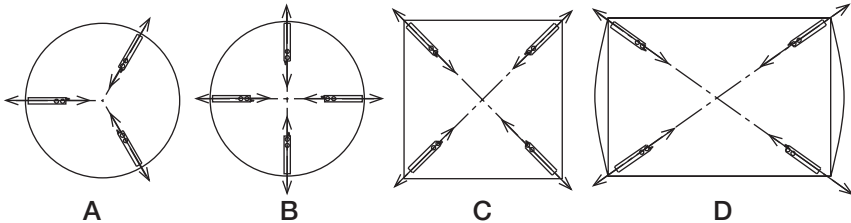

Figure 2-1. Load Cell Orientation
1. Determine where to position the mount and in which direction it should be oriented. The preferred mounting orientation for single ended beams is with the longitudinal axis of the load cell pointing toward the center of the vessel in circular mounting configurations as illustrated in A and B in Figure 2-1 on page 5.
Mounting configurations for square and rectangular vessels are shown in D and C in Figure 2-1. For rectangular vessels, the load cell's longitudinal axis should be aligned along the vessel's longest dimension as shown in Figure 4. In any application where a recurring side force is present in one direction, such as in a conveyor belt or roller platform, the longitudinal axis of the load cell should align with that force.